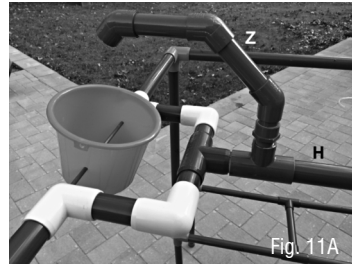

Fig. 11A
11. Connect the Bucket Spout (Z) to the Bucket Feed Line (H) as shown (Fig 11A and 11B).